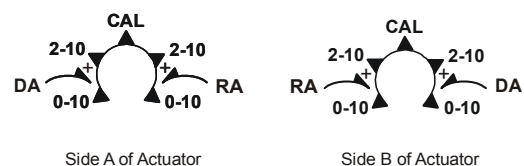

Figure 8: Mode Selection
Actuators have an external mode selection switch to calibrate, select input signal range, and reverse control logic. The switch is accessible from both A and B sides of the actuator as illustrated in Figure 8. Actuators are delivered in Direct Acting (DA), DC 0 to 10 V input signal mode. To change to Reverse Acting (RA) mode, move the mode selection switch from DA to RA.